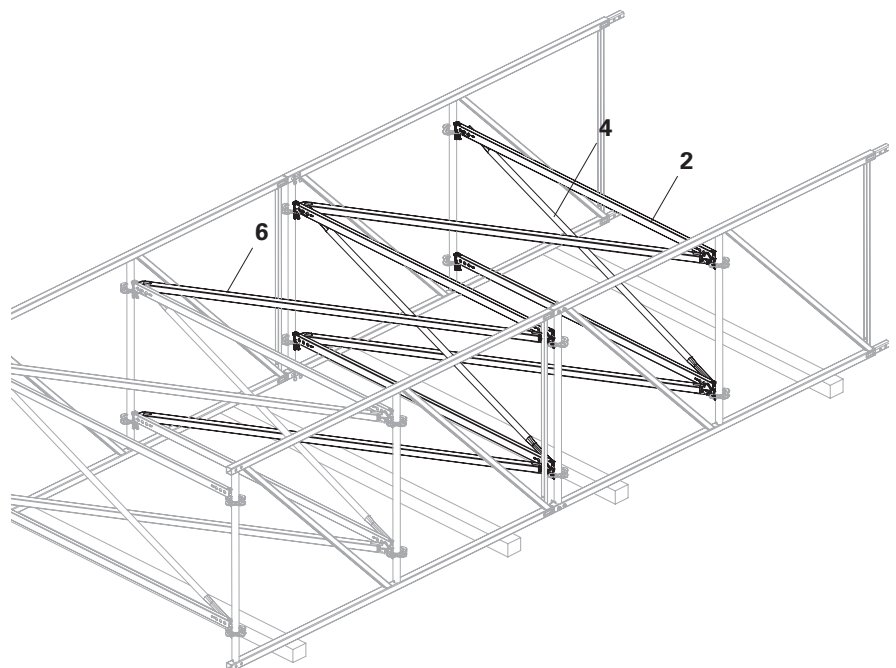

Fig. A1.06
3. Fit Horizontal Brace UBH Flex (**6**). (Fig. A1.06)